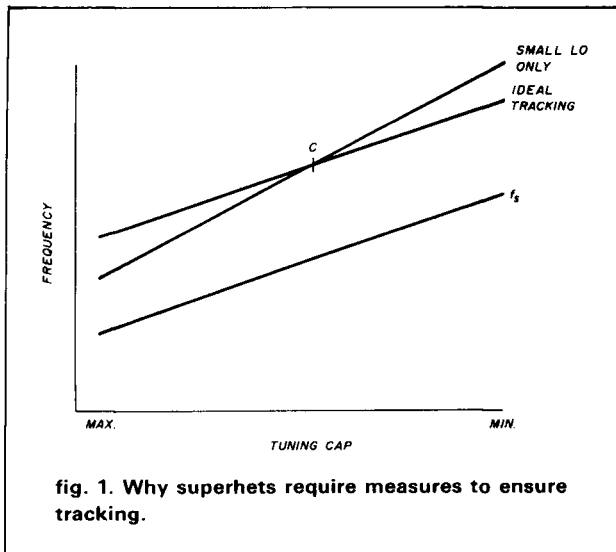

fig. 1. Why superhets require measures to ensure tracking.
and from this it is clear that tuning is not a linear function. If the oscillator coil (LO) were given less inductance than the signal coil  $L_s$  to obtain a high  $f_o$ , the rate of change of  $f_s$  and  $f_o$  would never yield a constant difference  $f_i$ . Fig. 1 shows the ideal tracking curve and the error resulting from using a smaller  $L_o$  only. If the receiver is made to track near the center of the tuning range (point C),  $f_o$  will be too high at the high end and too low at the low end. This could mean attenuation of the signal by 30 dB if you were using potted inductors in the 150-1600 kHz range.